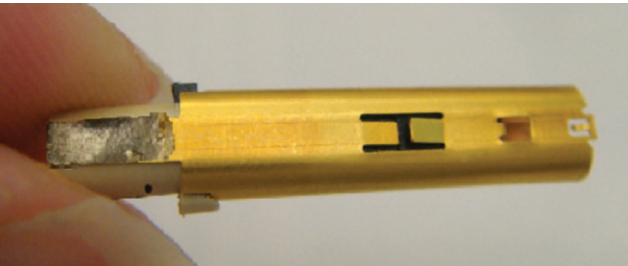

Figure 62: Locking outer body onto insulators
22. Slide the outer body onto the rear insulators at the end of the cable (Figure 62). **Note:** Unlike the two-piece outer body for the plug, the receptacle’s outer body is only one piece.